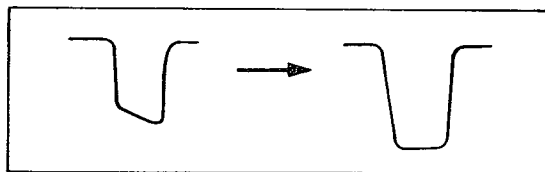
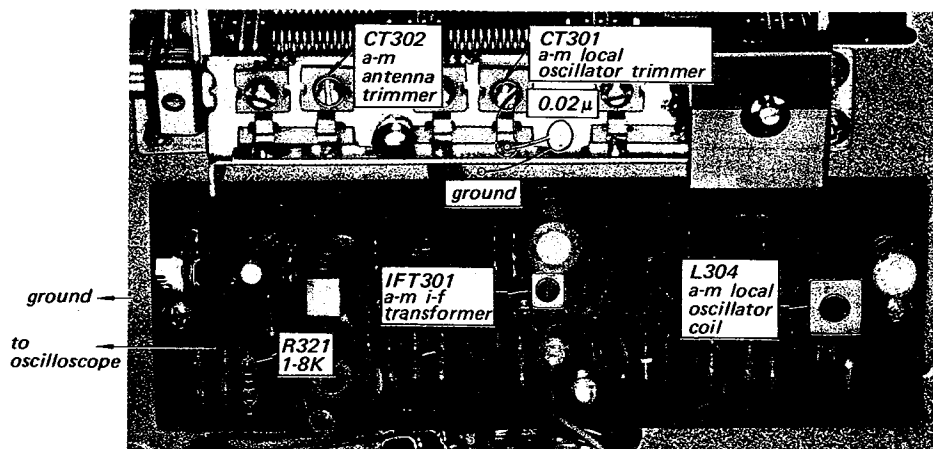
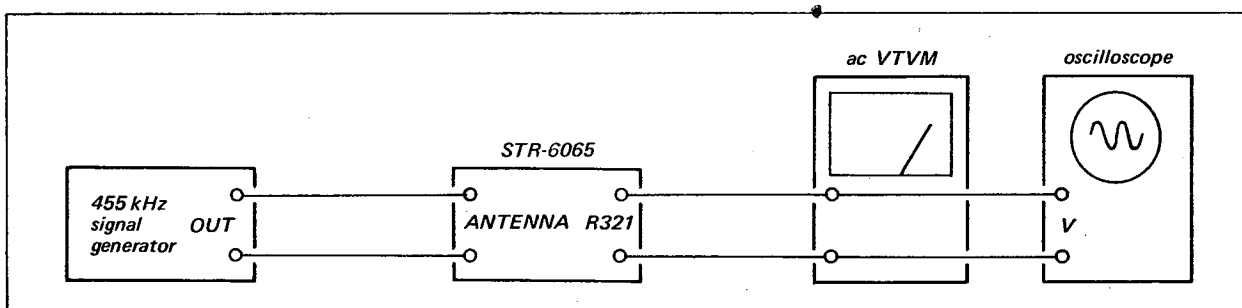

Fig. 3-11. A-m i-f strip alignment by sweep generator
Fig. 3-10. Disabling the a-m local oscillator, a-m detector output connection and parts location
Fig. 3-13. A-m i-f strip alignment by rf generator
Note: To perform this alignment, the local oscillator should be killed. To do this, shunt the local oscillator capacitor with a $0.02\text{-}\mu\text{F}$ capacitor as shown in Fig. 3-10.
2. Connect the input cable of the oscilloscope to R321 (see Fig. 3-10) and ground on the a-m cp i-f board with alligator clips as shown in Fig. 3-10.
5. Turn the top core of IFT301 (see Fig. 3-10) to obtain a maximum and symmetrical response as shown in Fig. 3-11.
3. With the equipment connected as shown in Fig. 3-13, turn the top core of IFT301 (see Fig. 3-10) to obtain maximum output.
dial calibration error exceeds this limit, turn the local oscillator-coil L304 (see Fig. 3-10) slightly until optimum dial calibration is obtained.
2. Tune the receiver to the highest-frequency station in your locality. If the dial calibration error exceeds ± 30 kHz from the carrier frequency, adjust local-oscillator trimmer-capacitor CT301 (see Fig. 3-10) to obtain maximum calibration accuracy. Repeat the above steps two or three times.
2. Tune the set to the station whose carrier frequency is closest to 1,400 kHz and adjust antenna trimmer CT302 to obtain maximum output. See Fig. 3-10.